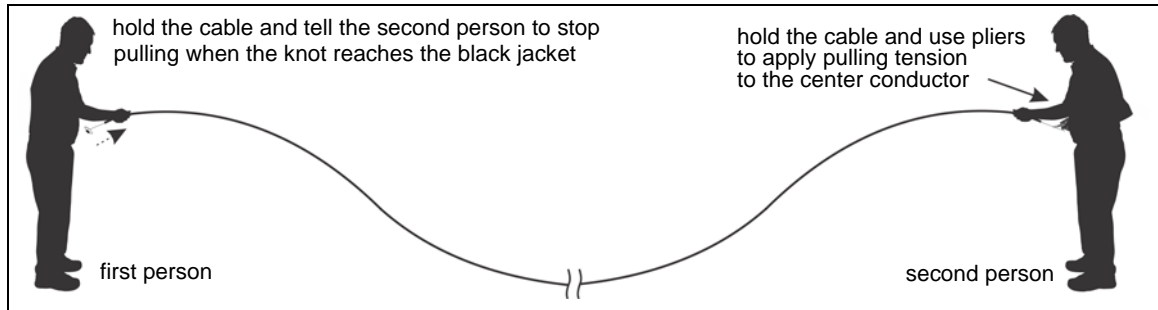

Figure 18: FlexZone cable conditioning (part 2 cable flossing)
1. The second person begins by using pliers to apply 2.3 to 4.5 kg (5 to 10 lb) of pulling tension to the center conductor while maintaining a firm grip on the cable's black jacket (see Figure 18:). The first person holds the cable firmly by the black jacket and tells the second person to stop pulling when the knot reaches the black jacket.